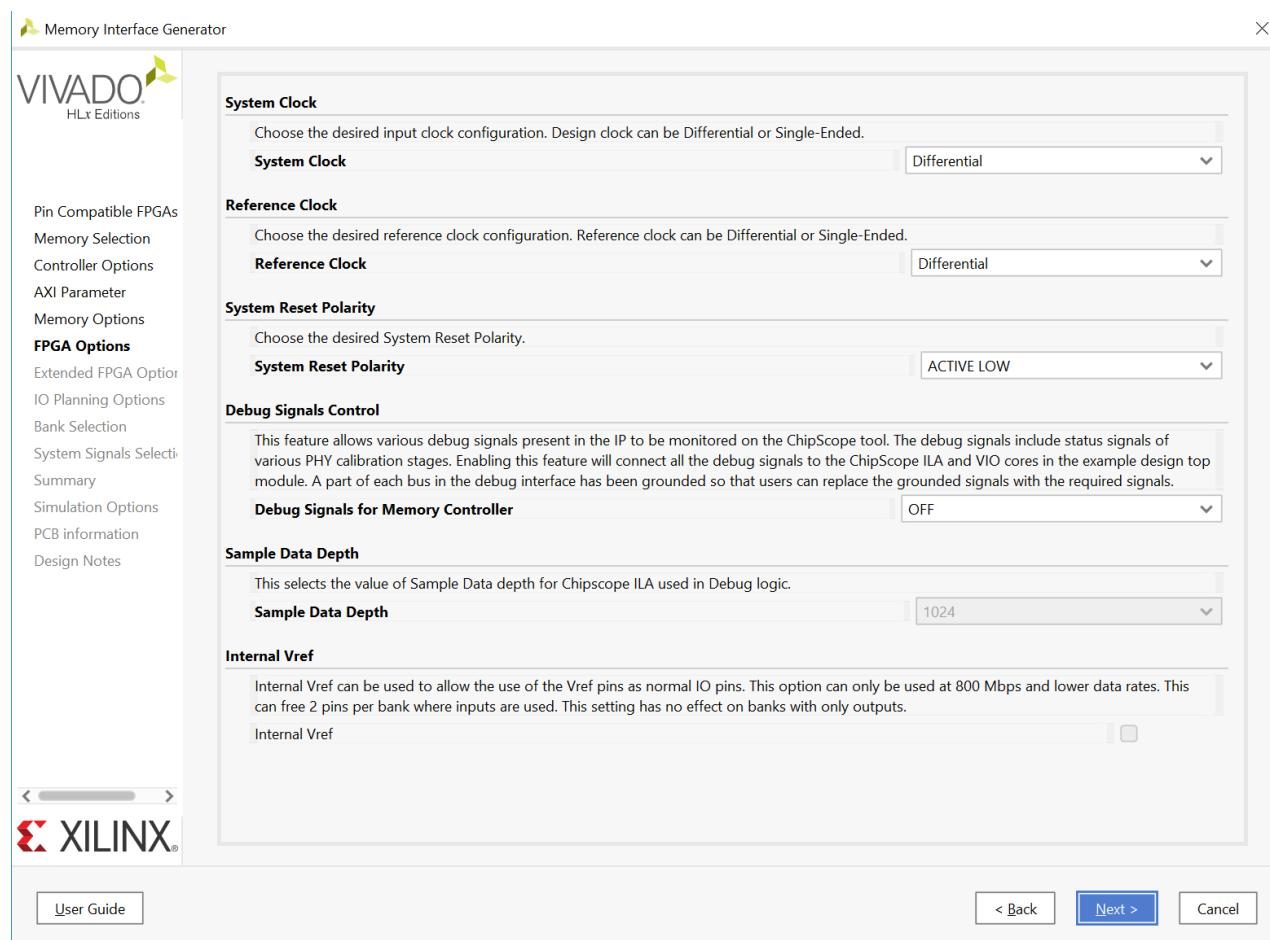

Figure 2-21: **FPGA Options Page**
Figure 2-21 shows the **FPGA Options** page.
- **sys_clk** – This is the system clock input for the memory interface and is typically connected to a low-jitter external clock source. Either a single input or a differential pair can be selected based on the **System Clock** selection in the **FPGA Options** page (Figure 2-21). The **sys_clk** input must be in the same column as the memory interface. If this pin is connected in the same banks as the memory interface, the MIG tool selects an I/O standard compatible with the interface, such as DIFF_HSTL_I or HSTL_I. If **sys_clk** is not connected in a memory interface bank, the MIG tool selects an appropriate standard such as LVCMOS18 or LVDS. The XDC can be modified as desired after generation.
- **clk_ref** – This is the reference frequency input for the IDELAY control. This is a 200 MHz input. The **clk_ref** input can be generated internally or connected to an external source. A single input or a differential pair can be selected based on the **System Clock** selection in the **FPGA Options** page (Figure 2-21). The I/O standard is selected in a similar way as **sys_clk** above.
- **sys_rst** – This is the asynchronous system reset input that can be generated internally or driven from a pin. The MIG tool selects an appropriate I/O standard for the input such as LVCMOS18 and LVCMOS25 for HP and HR banks, respectively. The default polarity of **sys_rst** pin is active-Low. The polarity of **sys_rst** pin varies based on the **System Reset Polarity** option chosen in **FPGA Options** page (Figure 2-21).